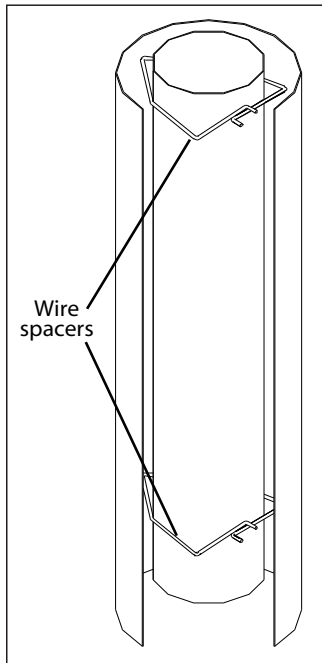
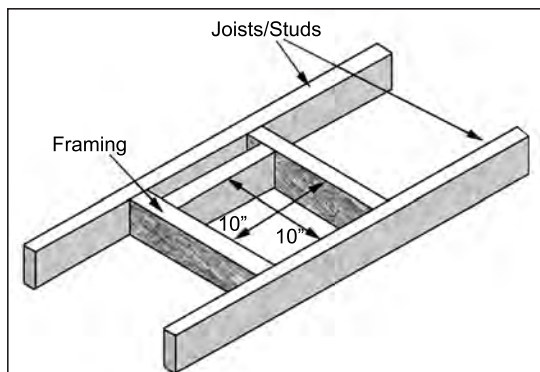
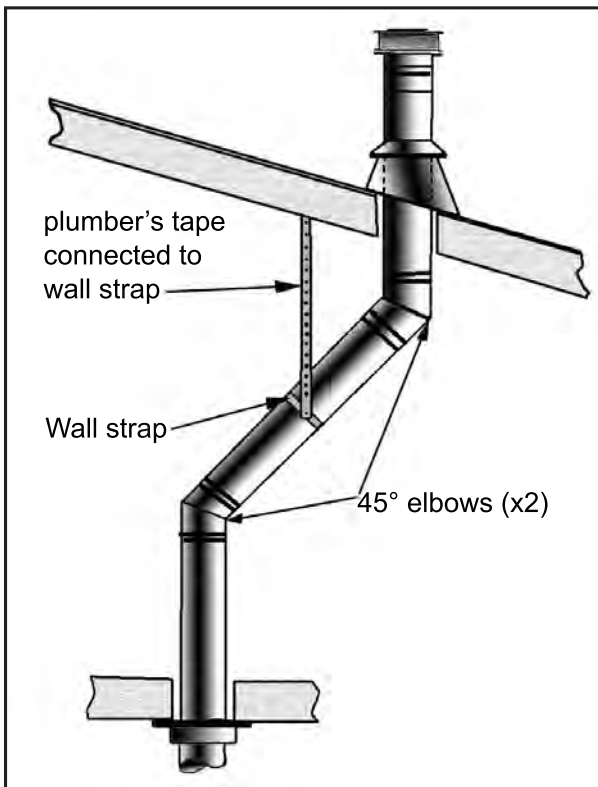

Figure 25: Wire Spacers.
Figure 29. Vent Framing For Wall or Ceiling.
Figure 36: Use of Wall Straps.
4. Frame the hole as shown in Figure 29.
5. Trim the wall thimble to match the wall thickness as necessary. Install the wall thimble and secure it to the inner wall frame using four (4) 1½" wood screws. If a wall is greater than 8" (203mm) in depth, the clearance above the flex must be 4³/₈" (111mm)
8. Slide the Ø6⁵/₈" (16.25 cm) flex intake liner over the flex vent. Install four (4) wire spacers around the flex pipe. Ensure the wire spacers are positioned at either end of the pipes, and at each end of any elbows in the liners (refer to Figure 25 and 26).
A 10" (254 mm) x 10" (254 mm) frame (see Figure 29) will assure the proper support and spacing for the vent pipe as it passes through the wall. Installations in Canada require that a wall thimble be used for passing through walls and ceilings. All sealing and vapour barriers must comply with local building codes.
Step 3. With the pipe in the correct position and attached to the fireplace, mark the wall for a 10 inches (25.4 cm) x 10 inches (25.4 cm) square hole (see Figure 29). The center of the hole should match the center line of the horizontal pipe. Cut and frame the hole in the exterior wall where the vent will be terminated. If the wall being penetrated is made of a non-combustible material (i.e. masonry or concrete) a 7 inches (17.8 cm) hole is acceptable.
Step 3. To install the Round Support Box/Wall Thimble in a flat ceiling, cut a 10 inch (25.4 cm) square hole in the ceiling, centered in the hole drilled in Step 2. Frame the hole as shown in Figure 29.
- (1) If an offset is necessary in the attic to avoid obstructions, it is important to support the vent pipe every 3 feet (914 mm), to avoid excessive stress on the elbows, and possible separation. Wall straps are available for this purpose (see Figure 36).
- (2) When ever possible, use 45° degree elbows instead of 90° degree elbows. The 45° degree elbow offers less restriction to the flow of flue gases and intake air.
- (3) For multi story installations; a ceiling firestop is required at the second floor, and any subsequent floors (see Figure 29). The opening should be framed to 10" (254 mm) x 10" (254 mm) inside dimensions, in the same manner as shown in Figure 29.
- (4) Any occupied areas above the first floor, including closets and storage spaces, which the vertical vent passes through, must be enclosed. The enclosure may be framed and sheet-rocked with standard building materials. However consult the appliance manufactures installation instructions for the minimum allowable clearance between the outside of the vent pipe, and the combustibile surfaces of the enclosure. Do not fill any required air spaces with insulation.